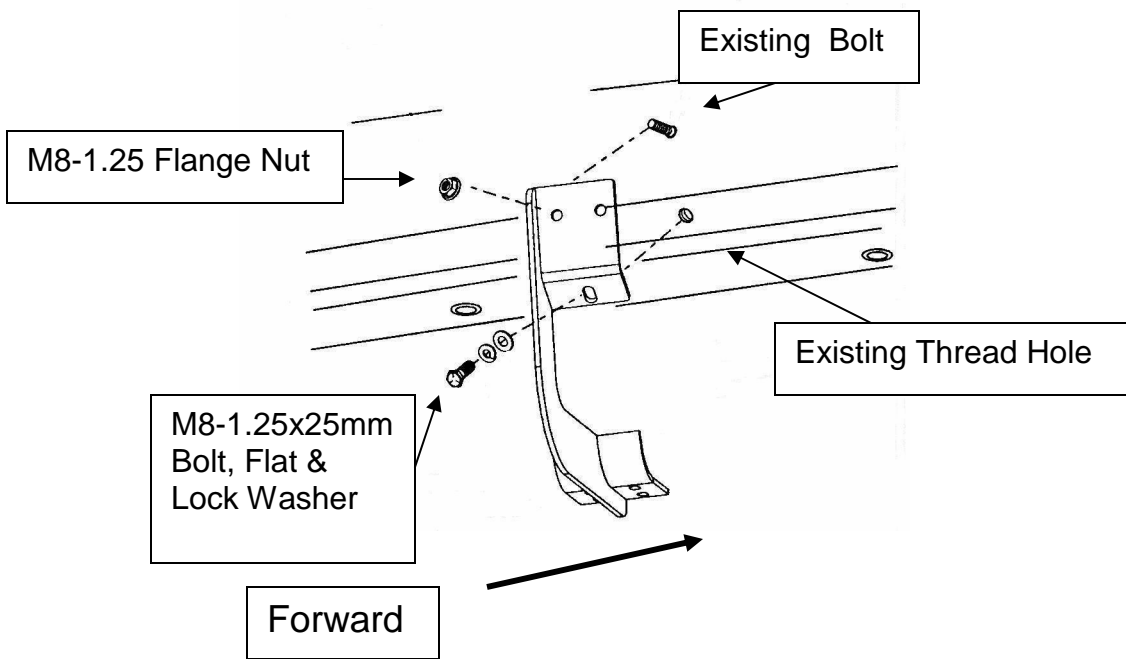

Figure 1. Installation View of Driver Side Shown
2. Install driver side bracket as shown (**see Fig 1**) placing bracket over existing bolt and tightening with M8-1.25 Flange nut. Place one M8-1.25 x 25mm hex head bolt, M8 flat washer, and M8 lock washer through bracket to existing hole on underside of body panel (**see Fig 1**). Hand tighten.